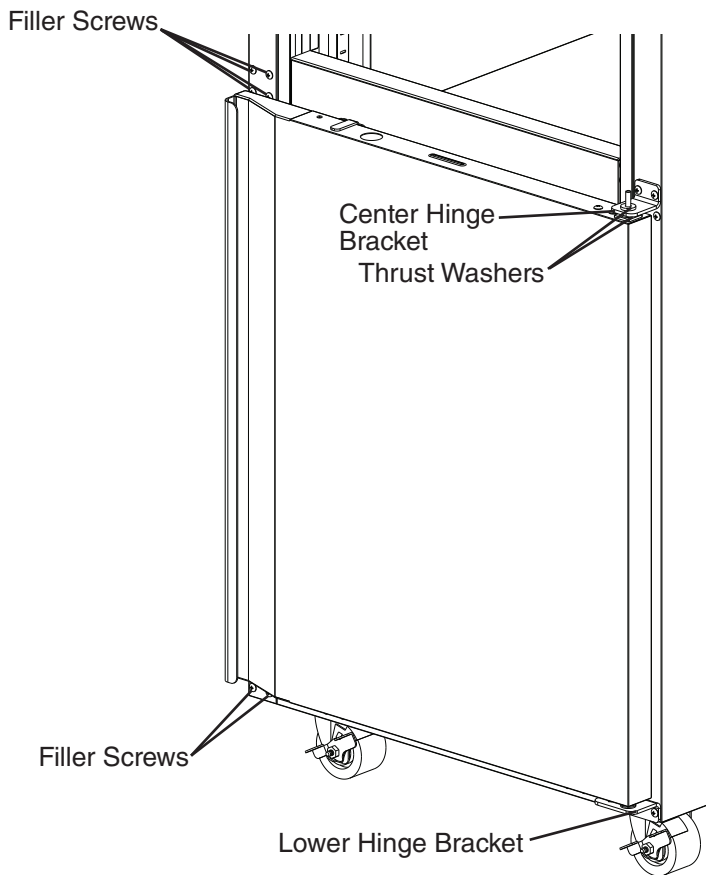

Fig. 18
- 6) While maintaining a hold on the lower door, remove the lower hinge bracket from the cabinet, then lower the door off the center hinge bracket and set aside. See Fig. 18. Retain the center hinge thrust washers for opposite side installation.